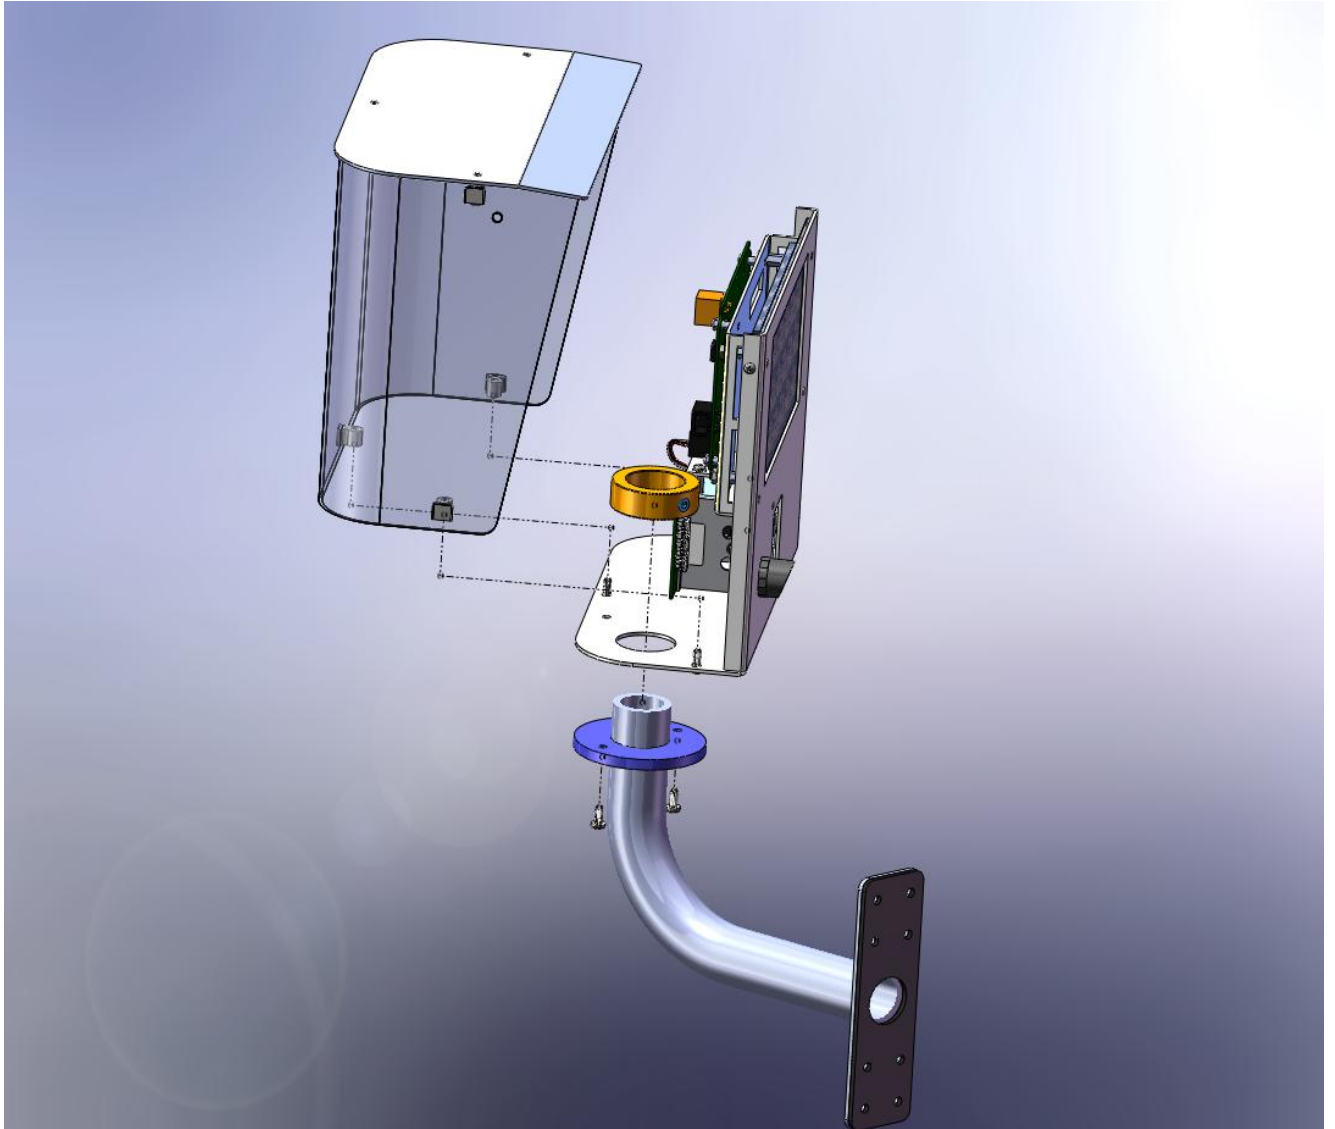

Fig. 2
**NOTE:** When installing or replacing the Video Head, you need to make sure that the mount you are attaching it to will work with the Video head (see fig. 2). If they do not match, contact the factory for assistance. These instructions assume that the mount and wiring are already installed on the equipment.